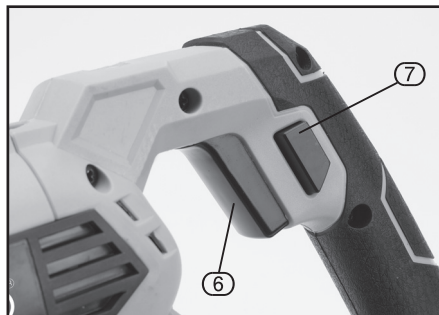

FIG.5
9.1 SWITCH AND VARIABLE STROKE RATE CONTROL - FIG. 5